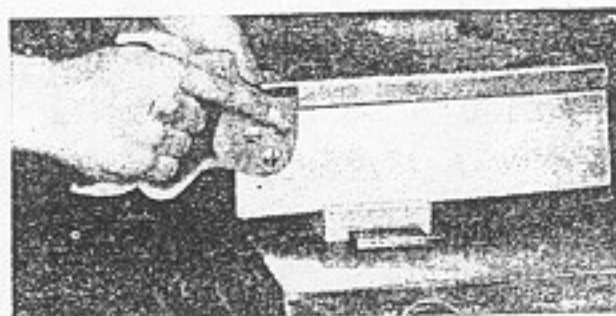

Fig. 172. Sawing with a backsaw on waste side of the line.
3. The board is sawed with a backsaw on the waste side of the width line (Fig. 172). A straight, even saw cut is obtained when the saw is started in a small, triangular groove cut with a chisel.